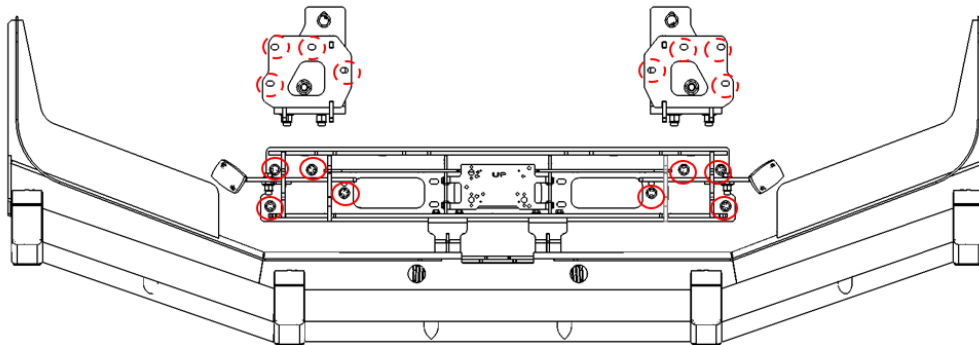

Figure 2e: Main Bracket Mounting
4. Lift the Main Bracket and Truck Guard (opened) assembly and mount it to the truck. Fasten the Main Bracket to the HERD Submounts using the provided 1/2" Hardware as shown in Figure 2e.